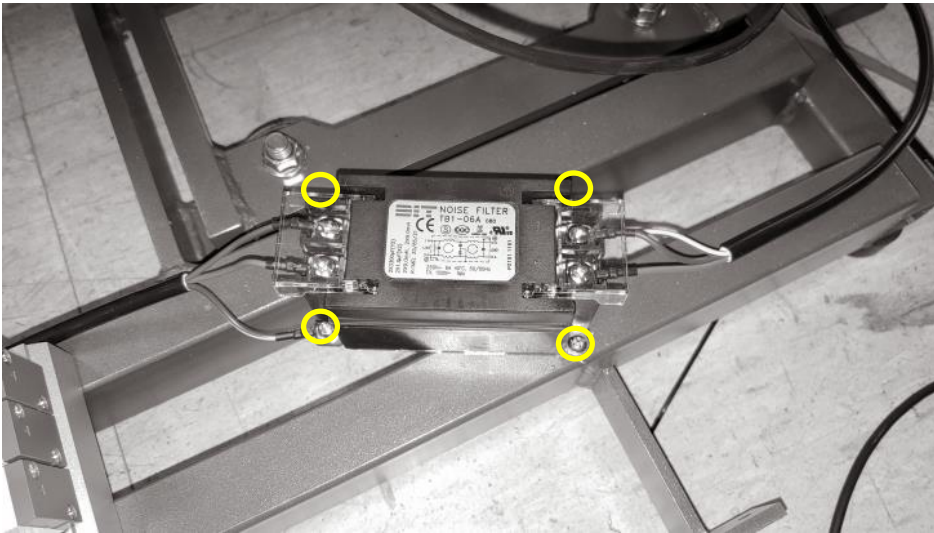

Figure 8.1
2. Remove the bolts (see figure 8.1).